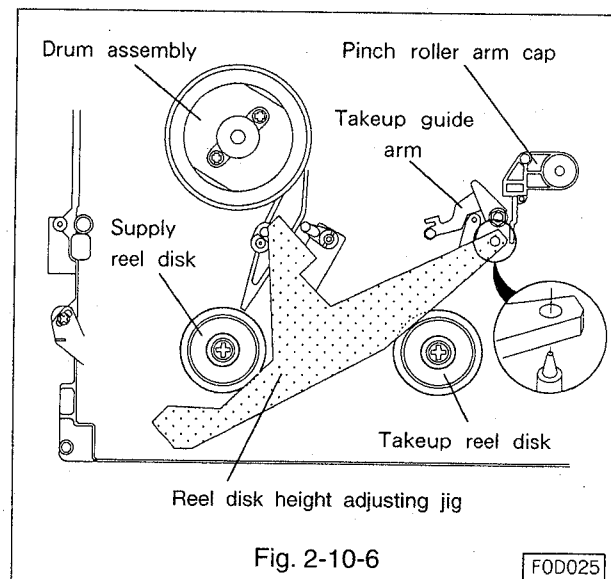

Fig. 2-10-6
- J. Place the reel disk height adjusting jig (Part Number 859C342O20) in the reference position on the main plate. (Refer to Fig. 2-10-6.)
- E. Place the reel disk height adjusting jig (Part Number 859C342O20) in the reference position on the main plate. (Refer to Fig. 2-10-6.)
- Place the reel disk height adjusting jig(for the F deck) in the reference position on the main plate(Refer to Fig. 2-10-6). Tighten the takeup guide arm fastening nut so that the lower flange of the takeup guide arm is level with point B of the height adjusting jig(for the E deck).